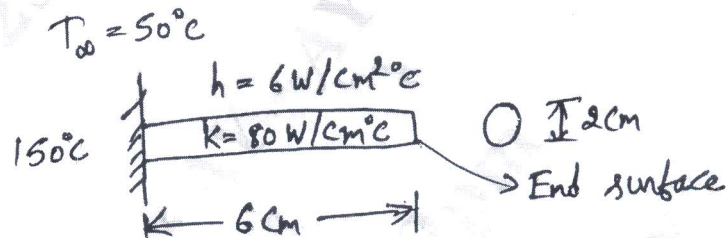

Fig Q10(b)
b. Find the temperature distribution in the one dimensional fin shown in Fig Q10(b).